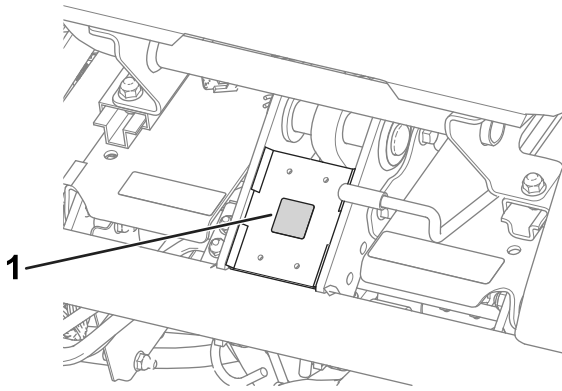

Figure 16
- Apply the CE mark decal to the frame under the front of the seat (Figure 16).